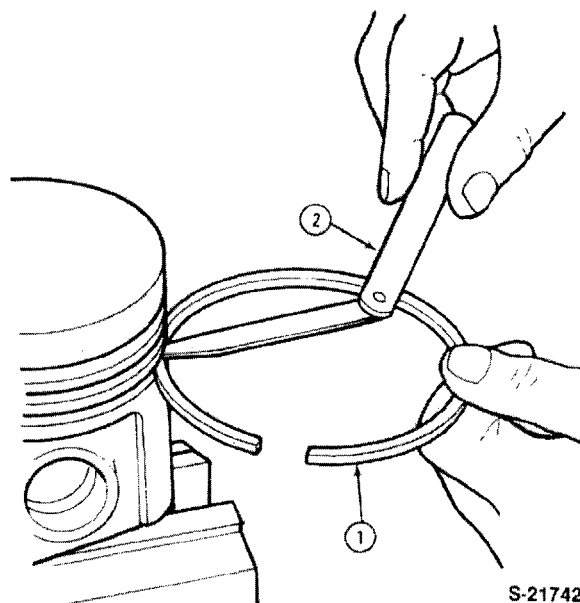

Figure 55
2. Inspect the piston ring lands for excessive wear. Use a new ring and feeler gauge to check the ring side clearance, Figure 55.